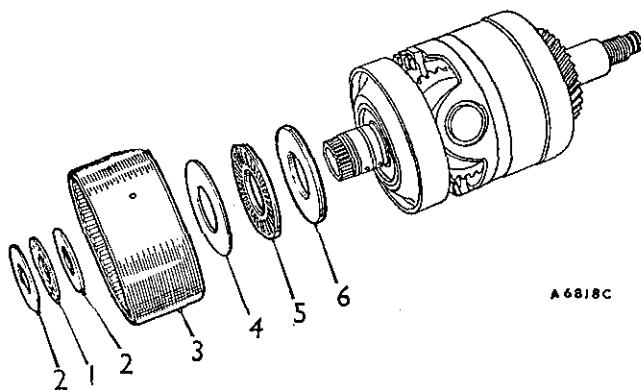

Fig. Fa.37
- (3) Remove the thrust race and washers (Fig. Fa.37).